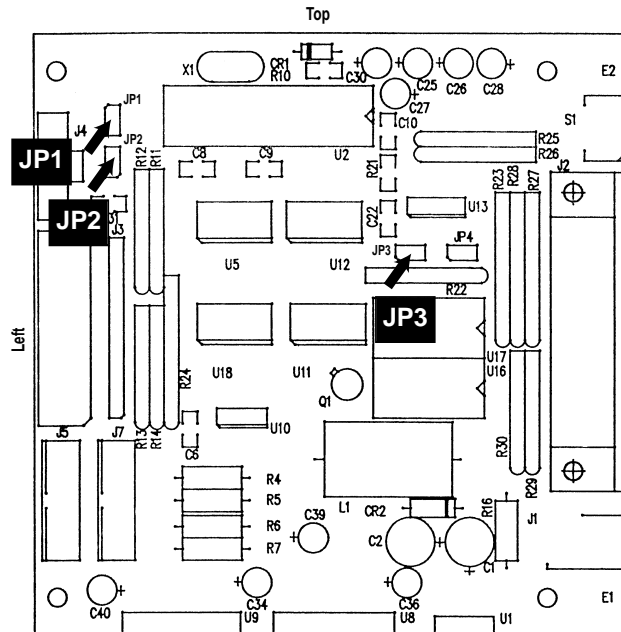

Fig. 1. Circuit board showing header locations (arrows).
LabPRO™ Fluidics Instruments are equipped with discrete line control and serial communications control capabilities. Line control includes 1 or 2 line level logic (model part numbers ending in -01), 1 or 2 line pulse logic (model part numbers ending in -02), and 4 line BCD (model part numbers ending in -03). Serial control includes RS-232 (model part numbers ending in -01 and -02), and RS-485 (model part numbers ending in -03). To change among -01, -02, and -03 configured units, pins of the appropriate header on the circuit board must be connected or disconnected. A shorting jumper makes this electrical connection when inserted on the header pins. Figure 1 shows the header locations on the circuit board.
3. Locate the circuit board of the LabPRO unit and the three headers labeled JP1, JP2, and JP3 (see Figure 1). Do not remove the circuit board from the instrument to install or remove shorting jumpers.